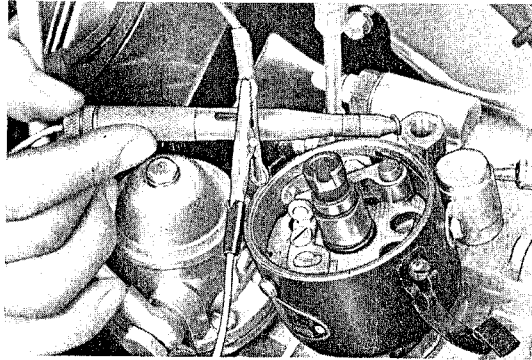

Fig. 49
2. Connect one lead of a 6 volt test lamp to cable 1 at the ignition coil and the other to the condenser cable (Fig. 49).